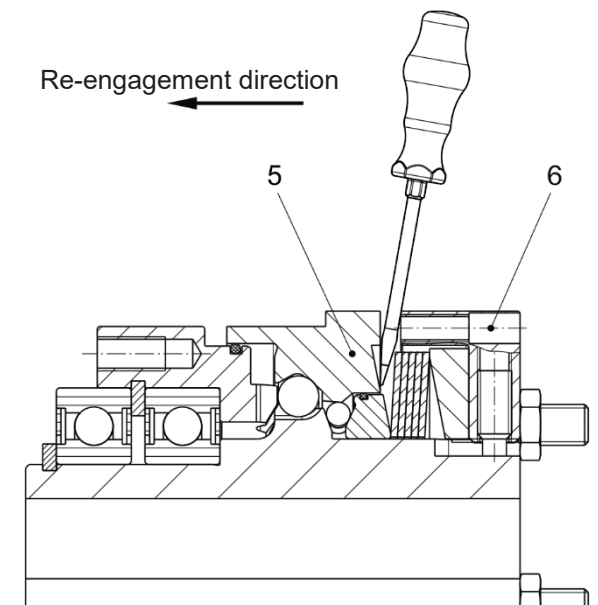

Fig. 5
- ☐ Manually, using a plastic hammer or installation levers (Fig. 5) supported on the adjusting nut (6), e. g. two screwdrivers placed opposite each other.